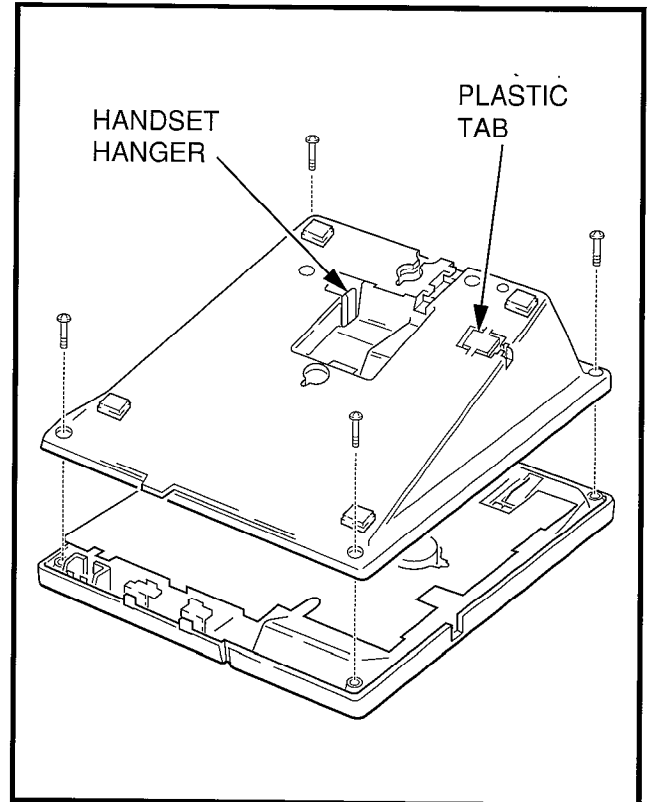

FIGURE 7-1—REMOVING ELECTRONIC TELEPHONE BASE
- 1) Loosen the four captive screws securing the telephone base (Figure 7-1), and remove the base.
- 2) Using a screwdriver or other suitable tool, remove the plastic tab located on the back of the base (Figure 7-1). The HHEU modular connector will be accessed through this opening.
2.31 If the beep strap is cut, the beep sound that occurs whenever the feature or dialpad buttons are pressed is eliminated (refer to Figures 7-1 and 7-3).
2.41 If the speaker cuts off frequently because high ambient noise levels interrupt conversations during handsfree operation, set the Room Noise switch to the HI position (see Figures 7-1 and 7-3).
- 2) Using a suitable cutter, remove the handset hanger from the base (refer to Figure 7-1). Insert the handset hanger in the slot provided on the front of the telephone (Figure 7-6). The hanger fits in the notch on the handset.